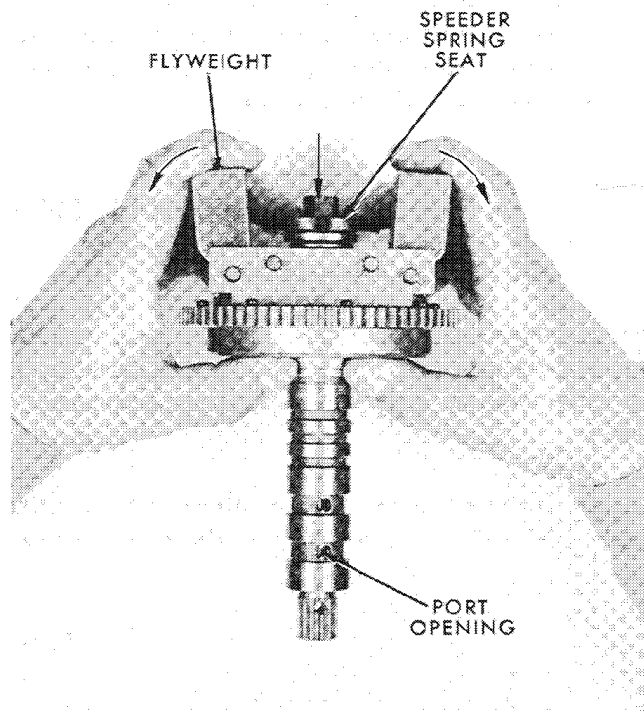

Figure 3-7
9. When mounting the power cylinder assembly onto the power case, align the holes in gasket (11) with the holes in the power case (32) instead of with those in the power cylinder.
10. When assembling the flyweight head pilot valve bushing assembly, align the missing tooth in the pilot valve bushing with the corresponding missing tooth in its mating part (items 81 and 92).
11. The three-piece thrust bearing (71) fits onto the stem of the pilot valve plunger (90) with the bearing race with the larger hole on the bottom (against the flyweight toes).
12. "Center" the pilot valve plunger in this manner: with slight pressure on the speeder spring seat (70), adjust the pilot plunger nut (68) until, as the flyweights (75) are moved from their extreme inward to their extreme outward position, there is the same amount of control land showing in the control port at each extreme.
The control ports are the bottom row of holes in the pilot valve bashing assembly. See Figure 3-7. (Note: Shutdown rod (77) with retaining ring (78), if used, must be inserted through nut (68) before the centering adjustment is made.)